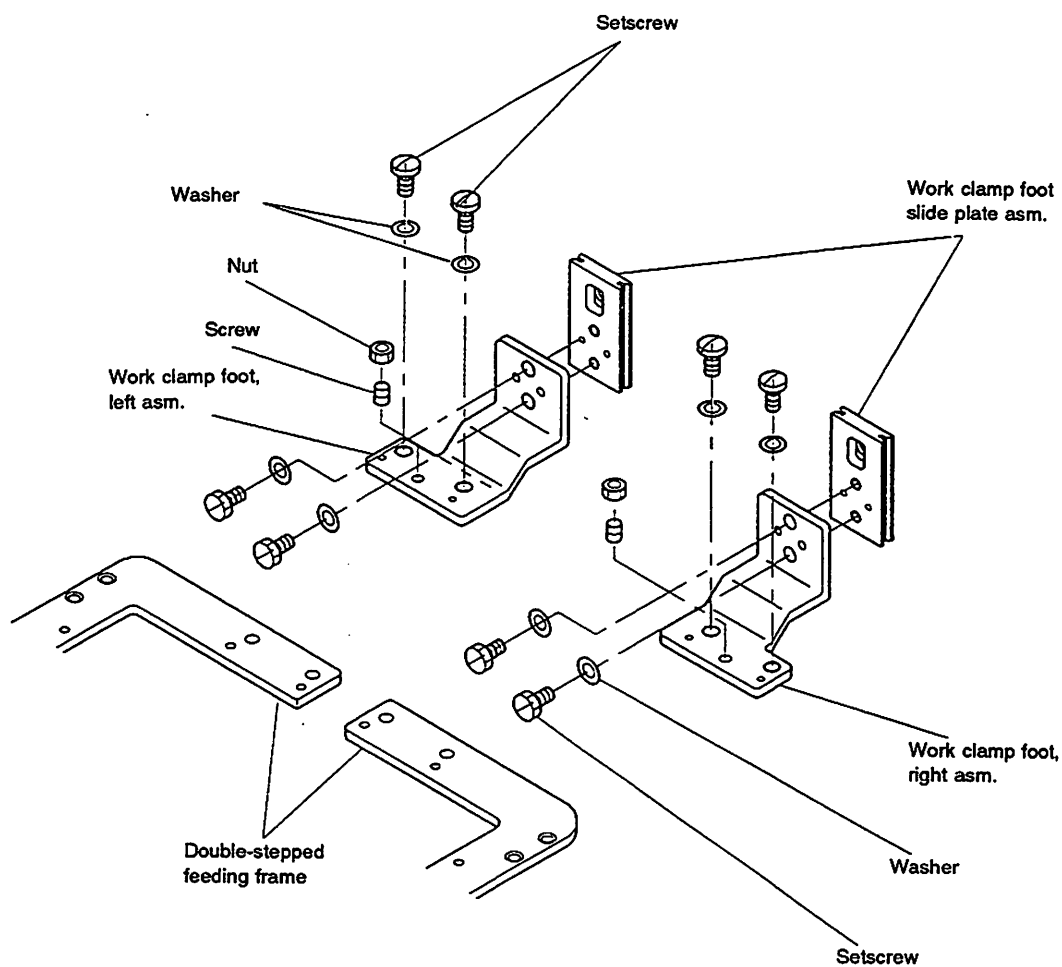

Fig. 4-8-1
- 1) Assemble the presser plate components referring to Fig. 4-8-1.